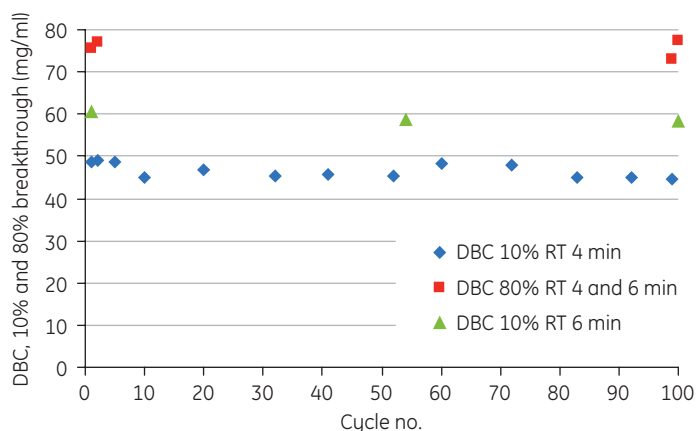

Fig 8. Dynamic binding capacity measurements for MabSelect SuRe LX over 100 purification cycles with 0.1 M NaOH as CIP agent. RT = residence time.
The increased alkaline stability allows very effective CIP with 0.1 to 0.5 M NaOH over many purification cycles (Figs 8 and 9). In addition, the ligand shows improved stability to proteases compared with rProtein A. This attribute also extends working lifetime and minimizes ligand leakage. Furthermore, as the engineered protein A ligand of MabSelect SuRe LX does not exhibit affinity for the Fab region of antibodies, more generic elution conditions can be employed compared with rProtein A. Antibodies can thus be eluted at a more homogeneous pH range (1). See Figure 7 for more details.
A lifetime study with MAB-containing feedstock has shown that the DBC and yield of MabSelect SuRe LX are stable over 100 purification cycles with 0.1 M NaOH, and that the levels of leached protein A and host cell proteins remain constant. Figure 8 shows DBC data and Figure 9 overlay chromatograms from this study.